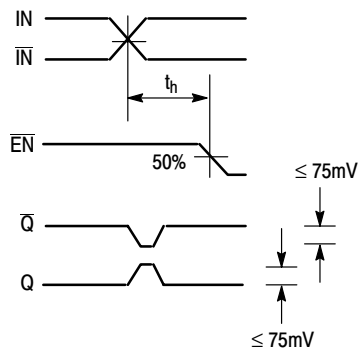

Figure 4. Hold Time
19. The hold time is the minimum time that $\overline{EN}$ must remain asserted after a negative going IN or a positive going $\overline{IN}$ to prevent an output response greater than $\pm 75\text{ mV}$ to that IN/ $\overline{IN}$ transition (see Figure 4).